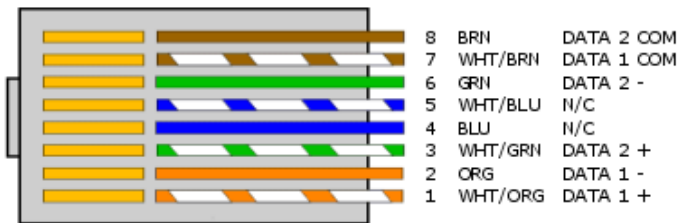

Figure 1 - RJ45 pinout
- ☐ Once run and properly secured, terminate the cables with the appropriate RJ-45 connector assembly. See **Figure 1** for RJ-45 pinout.